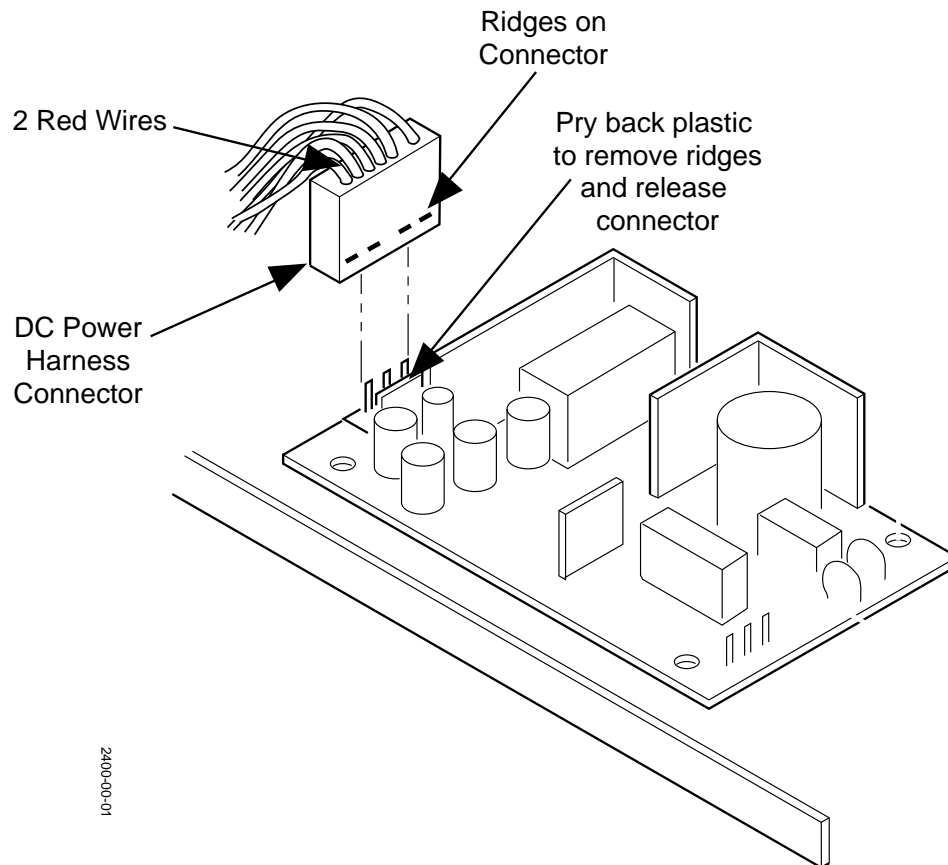

Figure 1
7. Locate the dc harness connector at the rear of the power supply. See Figure 1.